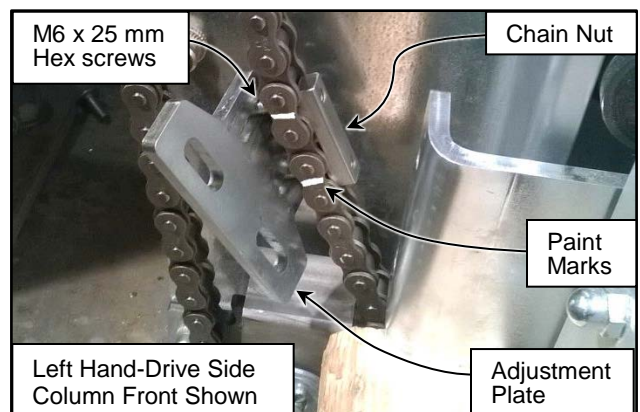
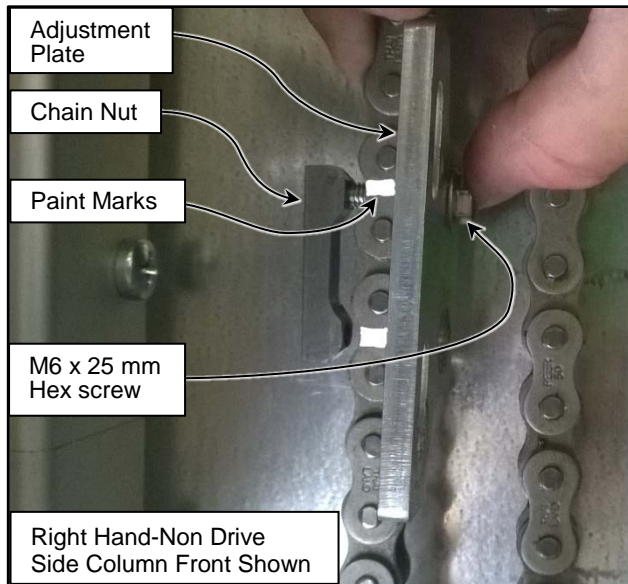

Figure 54
Figure 55
- Loosely fasten the adjustment plate to the marked drive chain links with the M6 x 25 mm Hex Flanged Screws and chain nut as shown. Do not fully tighten these fasteners yet. (See Figure 54, and Figure 55)